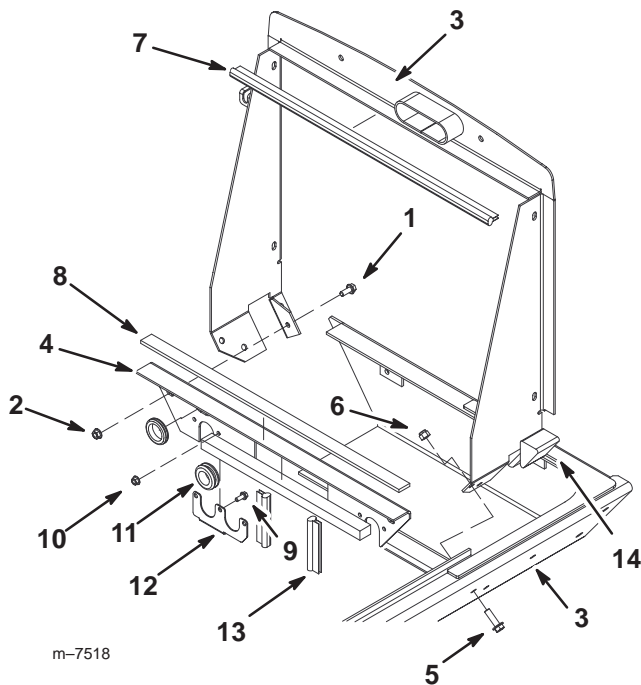

Figure 4
9. Remove the two flange bolts (5/16 x 5/8 inch) and the two lock nuts (5/16 inch) securing the upper radiator support to the base support (Fig. 4).
10. Remove the two flange bolts (3/8 x 1-1/4 inch) and the two lock nuts (3/8 inch) securing the upper radiator support to the frame. Remove the support and retain the fasteners for later use (Fig. 4).
11. Remove and retain the upper bulb seal and foam angles from the support. Discard the one piece support (Fig. 4).
12. Remove the flange bolts (1/4 x 5/8 inch) and the lock nuts (1/4 inch) securing the radiator base support to the vertical plates in the frame (Fig. 4).
14. Remove and inspect the grommets, foam plugs and strips, and bulb seals from the radiator base support. Replace any items if necessary (Fig. 4).